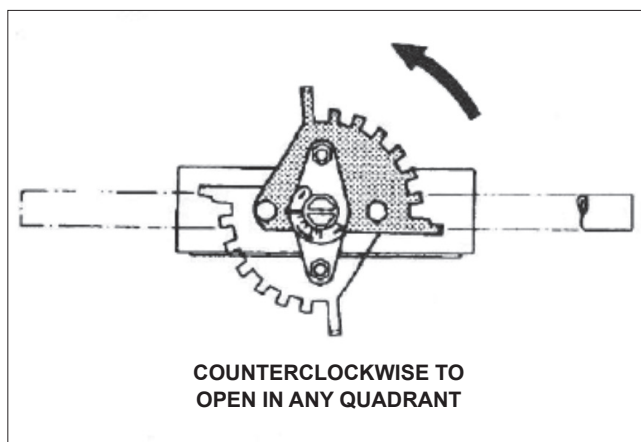

Figure 1. Offset Shaft Operation
One of the design features of the Cryogenic *Wafer-Sphere* valve that is responsible for its superior performance is the valve's offset shaft design. The shaft is offset in two planes: (1) away from the valve disc centerline and (2) behind the disc sealing plane. Offset shaft design makes the rotating disc "cam" back and away from the seat, completely eliminating the usual wear points at the top and bottom of the seat. Because the disc rotates off the seat in an eccentric arc, it operates in one quadrant only (See **Figure 1**).
4. Before installing a closed valve in the pipeline, be sure that the handle or actuator is attached so that a counter-clockwise rotation, viewed from above, opens the valve (See **Figure 1**). Fully close the valve again before installing in the pipeline.